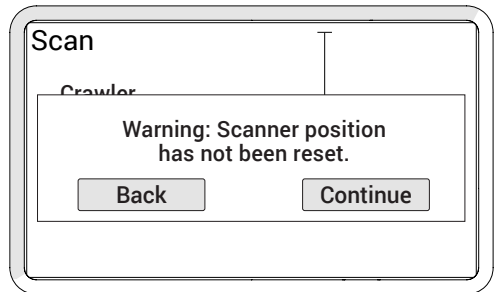

Fig. 187 - Exit warning
- 10 Exit button Pressing **Exit** stops all scanning motion. A warning appears when the scanner is not in the **A** position, (Fig. 187). The warning alerts that the **A** position of the scanner will be changed to the current position.